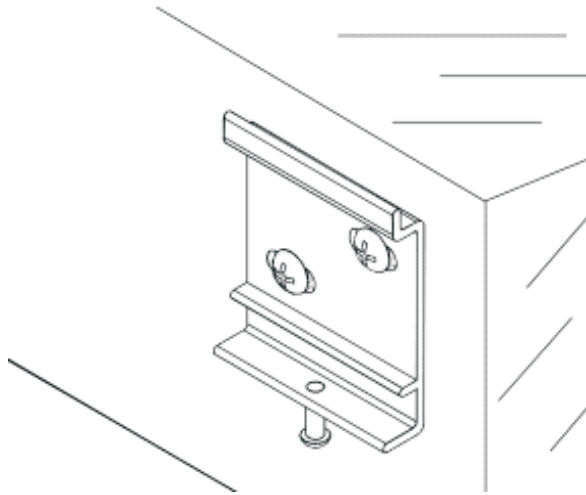

Fig.3.
2. Fix the wall mount on the wall as Fig 3